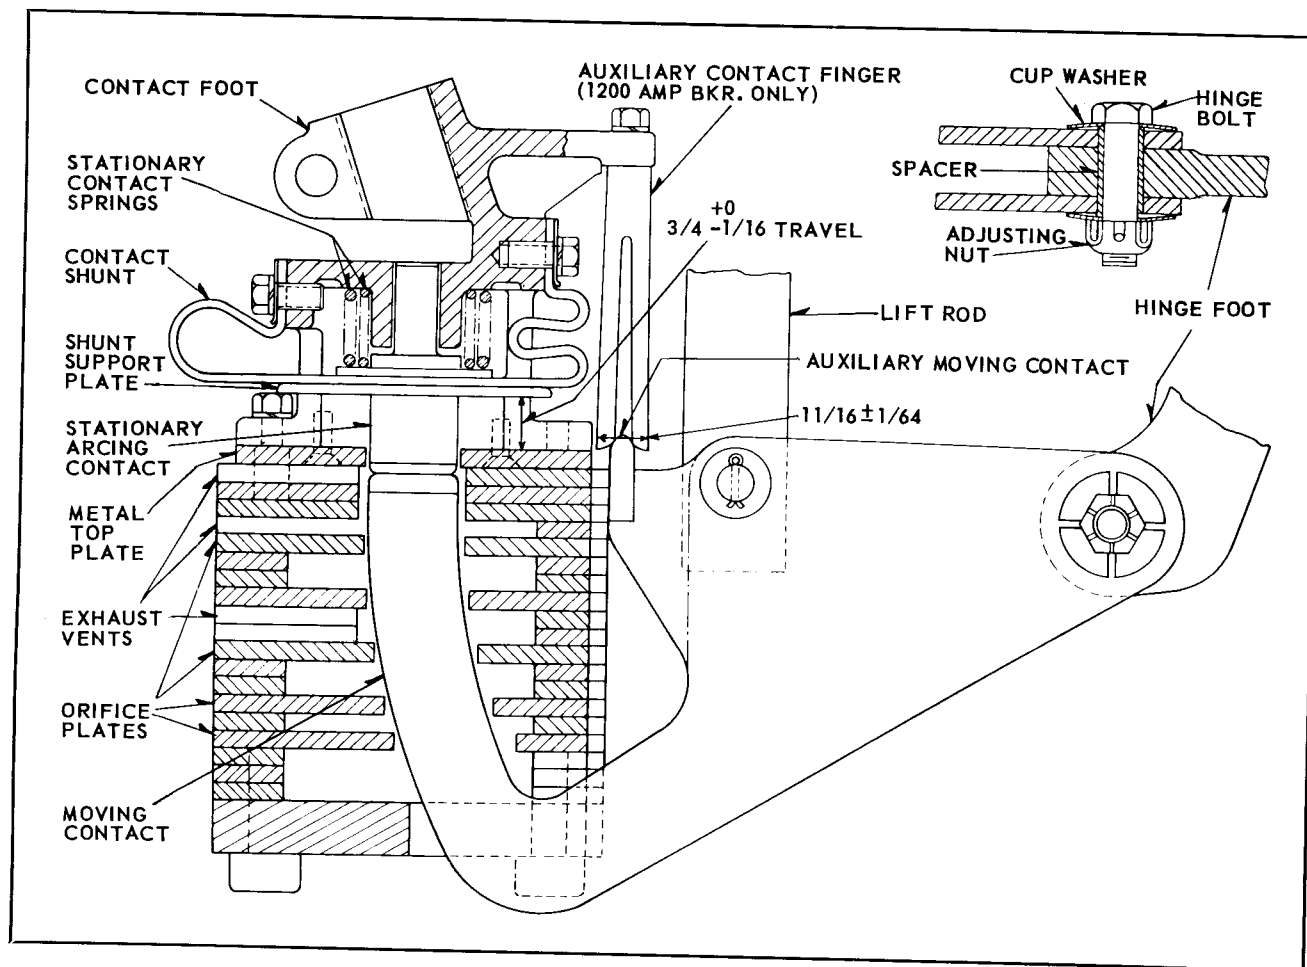

FIG. 11. De-ion Grid and Contact Assembly
As may be seen in Fig. 11, butt contacts are used in order to get high speed contact parting time. The stationary and moving contacts are both tipped with silver tungsten which provides sufficient conductivity for the 600-ampere rating, while at the same time providing good resistance to arc erosion. An auxiliary "tuning-fork" finger contact is used outside the interrupter for the 1200-ampere rating. This contact parts first on an opening operation, so that all the arcing takes place inside the interrupter on the butt contacts. It will be noted that a single
1. Refer to contact assembly Fig. 11. With the breaker closed and latched, the stationary arcing contact should be  $\frac{3}{4} + 0 - \frac{1}{16}$ " above its open position. This may be observed by looking through the opening at the rear of the contact foot and checking the height of the shunt support plate above the metal top plate on the grid stack. When the auxiliary contact finger is used (1200-ampere breaker only), the finger should spread to  $\frac{1}{16} \pm \frac{1}{64}$ " as shown. These adjustments are obtained by screwing the contact foot and hinge foot up or down on the condenser bushing studs. Note that adjusting the contact foot will affect both the arcing and auxiliary contact adjustments equally. However, adjusting the hinge foot will affect the arcing contact adjustment almost 3 times as much as the auxiliary contact adjustment; this is because the moving contact is pivoting about the lower lift rod pin when making this adjustment and the different radii of the arcing and auxiliary contact with respect to this pivot point. It is important not to spread the auxiliary contact finger beyond